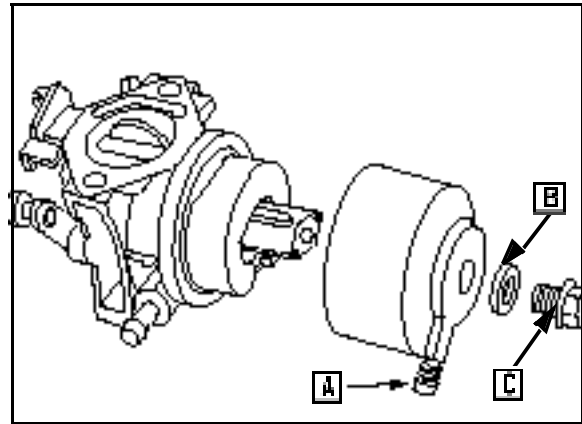

Fig. 92
19. Position bowl drain as shown, Fig. 92.
20. Install float bowl (A), washer (B), and mounting screw ([C] Fig. 92), to carburetor.
21. Tighten screw (C) securely.